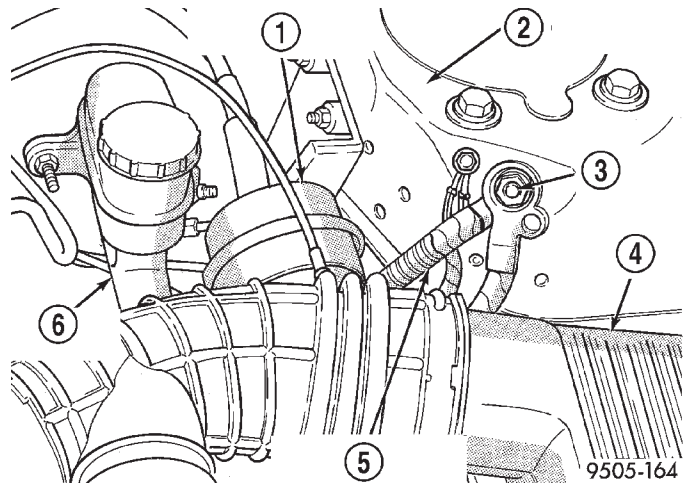

Fig. 46 Ground Cable Attachment At Strut Tower
(1) Remove the remote ground cable from the ground stud located on the left strut tower (Fig. 46). Correctly isolate remote ground by installing the ground cable insulator on the strut tower ground stud as shown (Fig. 47)
(14) Connect the remote ground cable for the battery on the ground post located on left shock tower (Fig. 46).